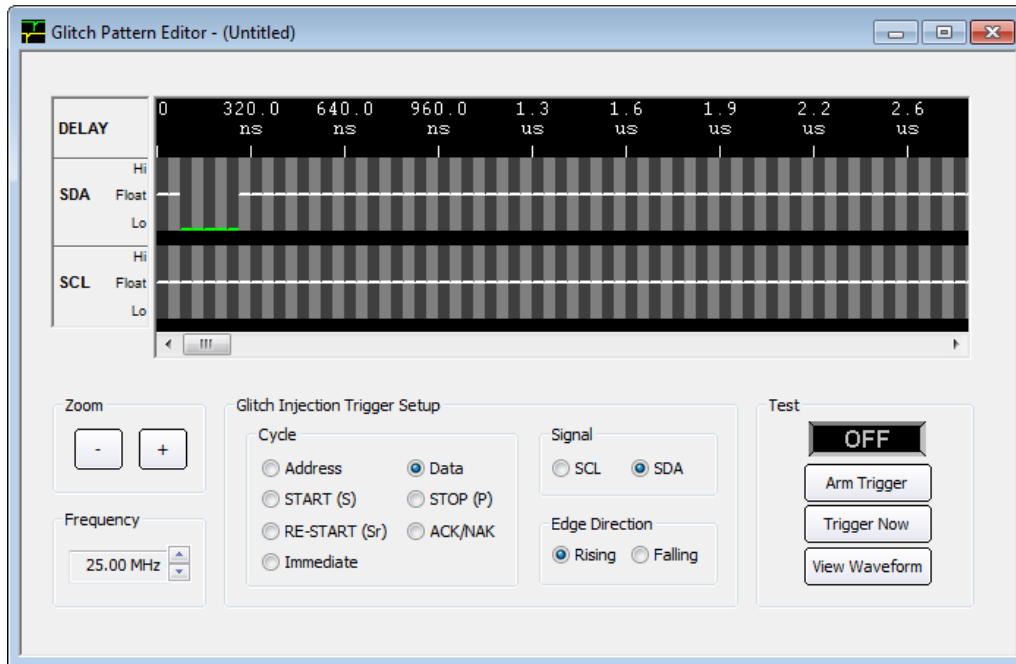

Figure 219. Default Glitch Pattern Setting
2. Open up the Glitch Pattern Editor by selecting the **Glitch Pattern Editor** menu item from the **Tools** menu. You will see a default pattern, which is SDA pulled low for 200 ns starting after an 80 ns delay. You will also notice that the frequency of the clock is set to 25 MHz, which makes the clock period 40 ns. At the bottom middle part of the window, you will see the *Glitch Injection Trigger Setup* area, which by default specifies the triggering condition to be a SDA rising edge during a data cycle. The Glitch Pattern Editor with default settings is shown in Figure 219.